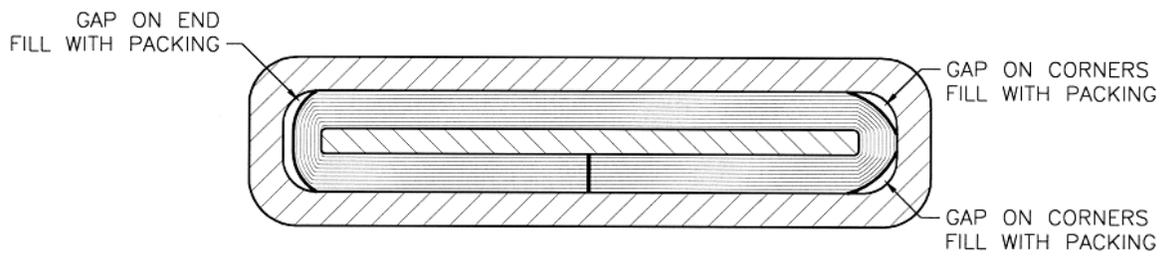

Figure 4
7. When the entire length of packing has been inserted, push the packing to the bottom of the stuffing box. If the packing does not fit tightly into the corners of the stuffing box as shown in Figure 4, cut small pieces of packing and force into these voids.